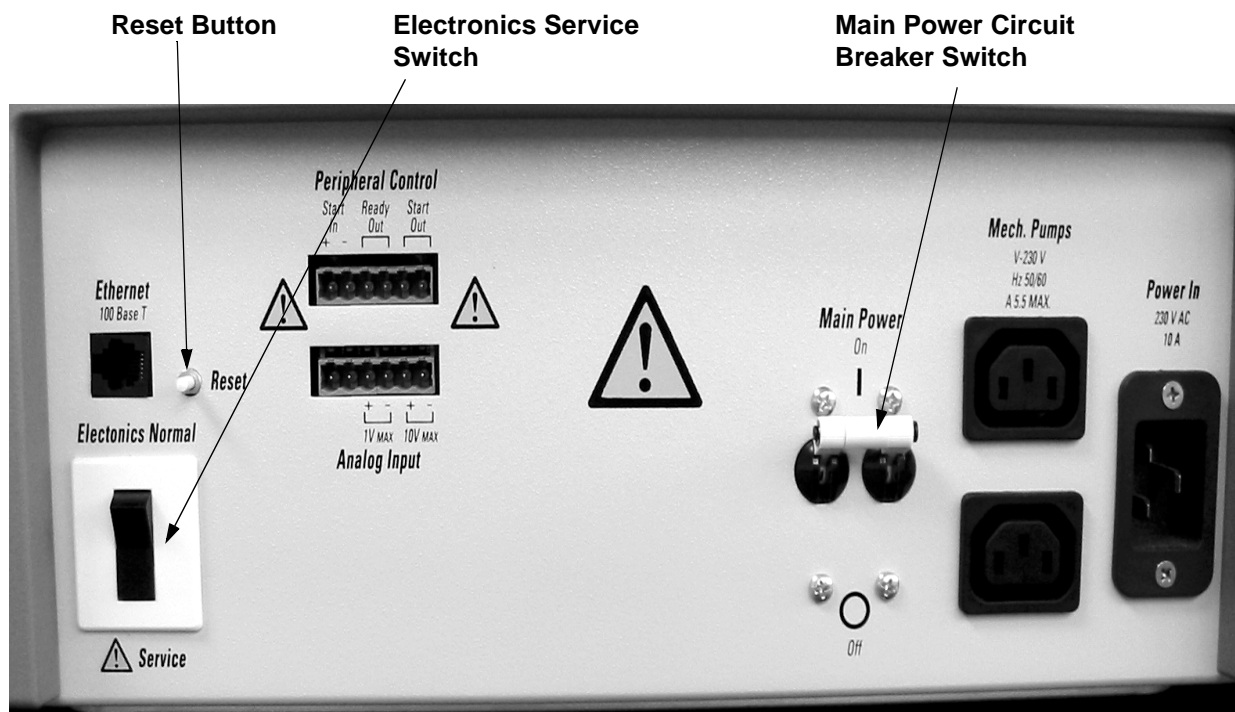

Figure 2-6. Power panel
The **main power circuit breaker switch** (labeled *Main Power*) is located on the power panel, which is located at the lower right corner of the right side panel of the MS detector. See Figure 2-6. In the Off (O) position, the circuit breaker removes all power to the MS detector, including the vacuum pumps. In the On (I) position, power is supplied to the MS detector. In the standard operational mode, the circuit breaker is kept in the On (I) position.
The **electronics service switch** is located on the power panel (See Figure 2-6). In the Service position the switch removes power to all components of the MS detector other than the vacuum system. In the Electronics Normal position power is supplied to all components of the MS detector.